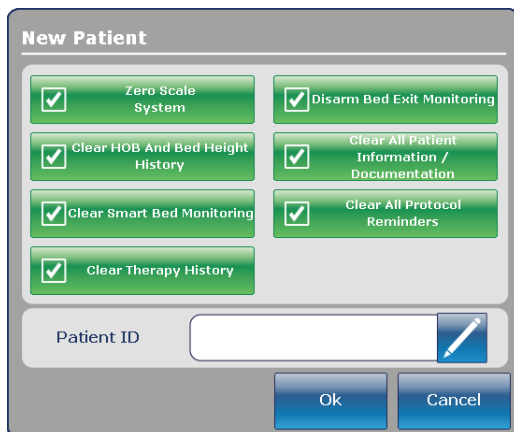

Figure 21 – New patient
1. Tap the pencil (Figure 21).
Display Patient ID: Displays the Patient ID. You can enter the Patient ID on the **New Patient** screen (Figure 21).